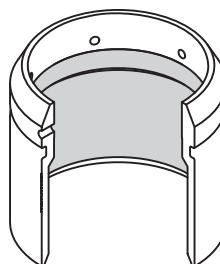

Figure 3
- 6.) Inspect the sealing surfaces of the tubing drain sleeve (see Figure 3).